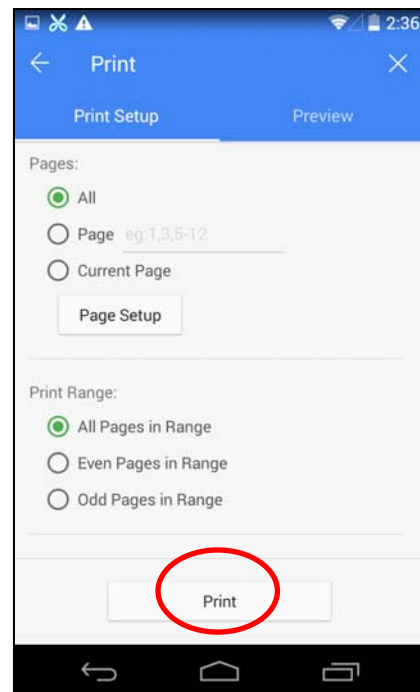

Figure 28
4.4 When the "Print" interface pops up, click "Print", as shown in Figure 28.